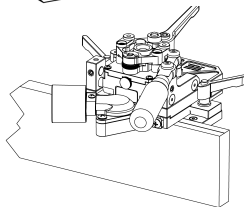

FIG. 18
3. Once you have removed your endmill, push the carriage return plunger button and the Pocket Mill Pro returns to its original position. (See Figure 18)